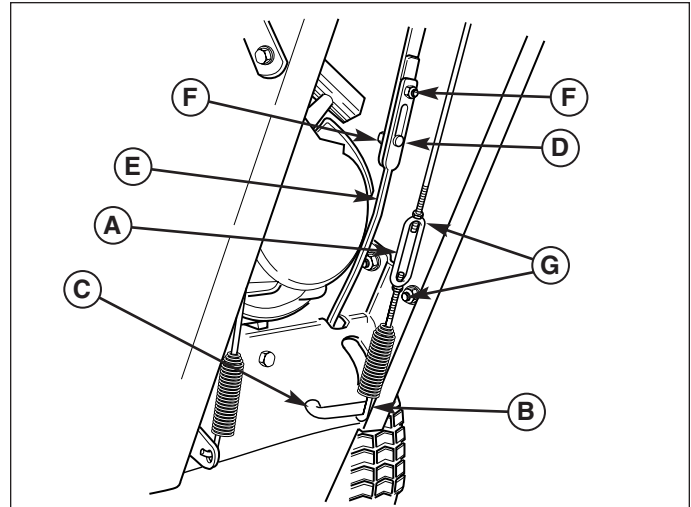

Figure 15. Speed Selector and Auger Drive Linkages
1. Loosen the two nuts (F, Figure 15).
3. Push the lower rod into the housing and tighten the two nuts. Do not lift up or down on rods while tightening. Make sure the shoulders of the carriage bolts (D) are in the slots.
1. With the drive lever released, the hook (B, Figure 15) should barely touch the lever (C) without raising it. There can be a maximum 1/32" clearance as shown.
2. To adjust, loosen the two nuts (G) and hold the lower rod to keep from rotating. Turn the turnbuckle toward the right to lower the spring, or toward the left to raise the spring.